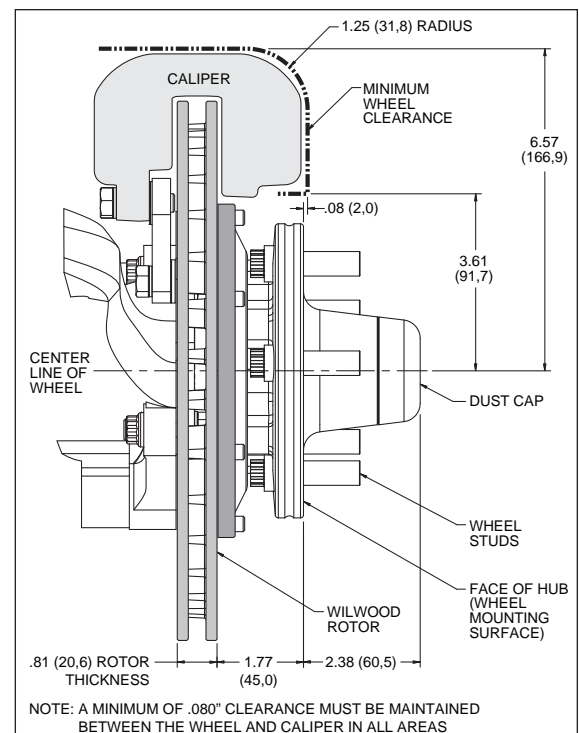

Figure 2. Wheel Clearance Diagram
- Verify wheel clearance utilizing Figure 2.
- **WARNING:** The wheel contact surfaces must seat completely on the face of the hub. If any contact surfaces overhang the outside diameter of the hub face, a 6.60" diameter x .20" thick steel spacer (item 24, Wilwood P/N 300-11961) MUST be used between the wheel and the hub.